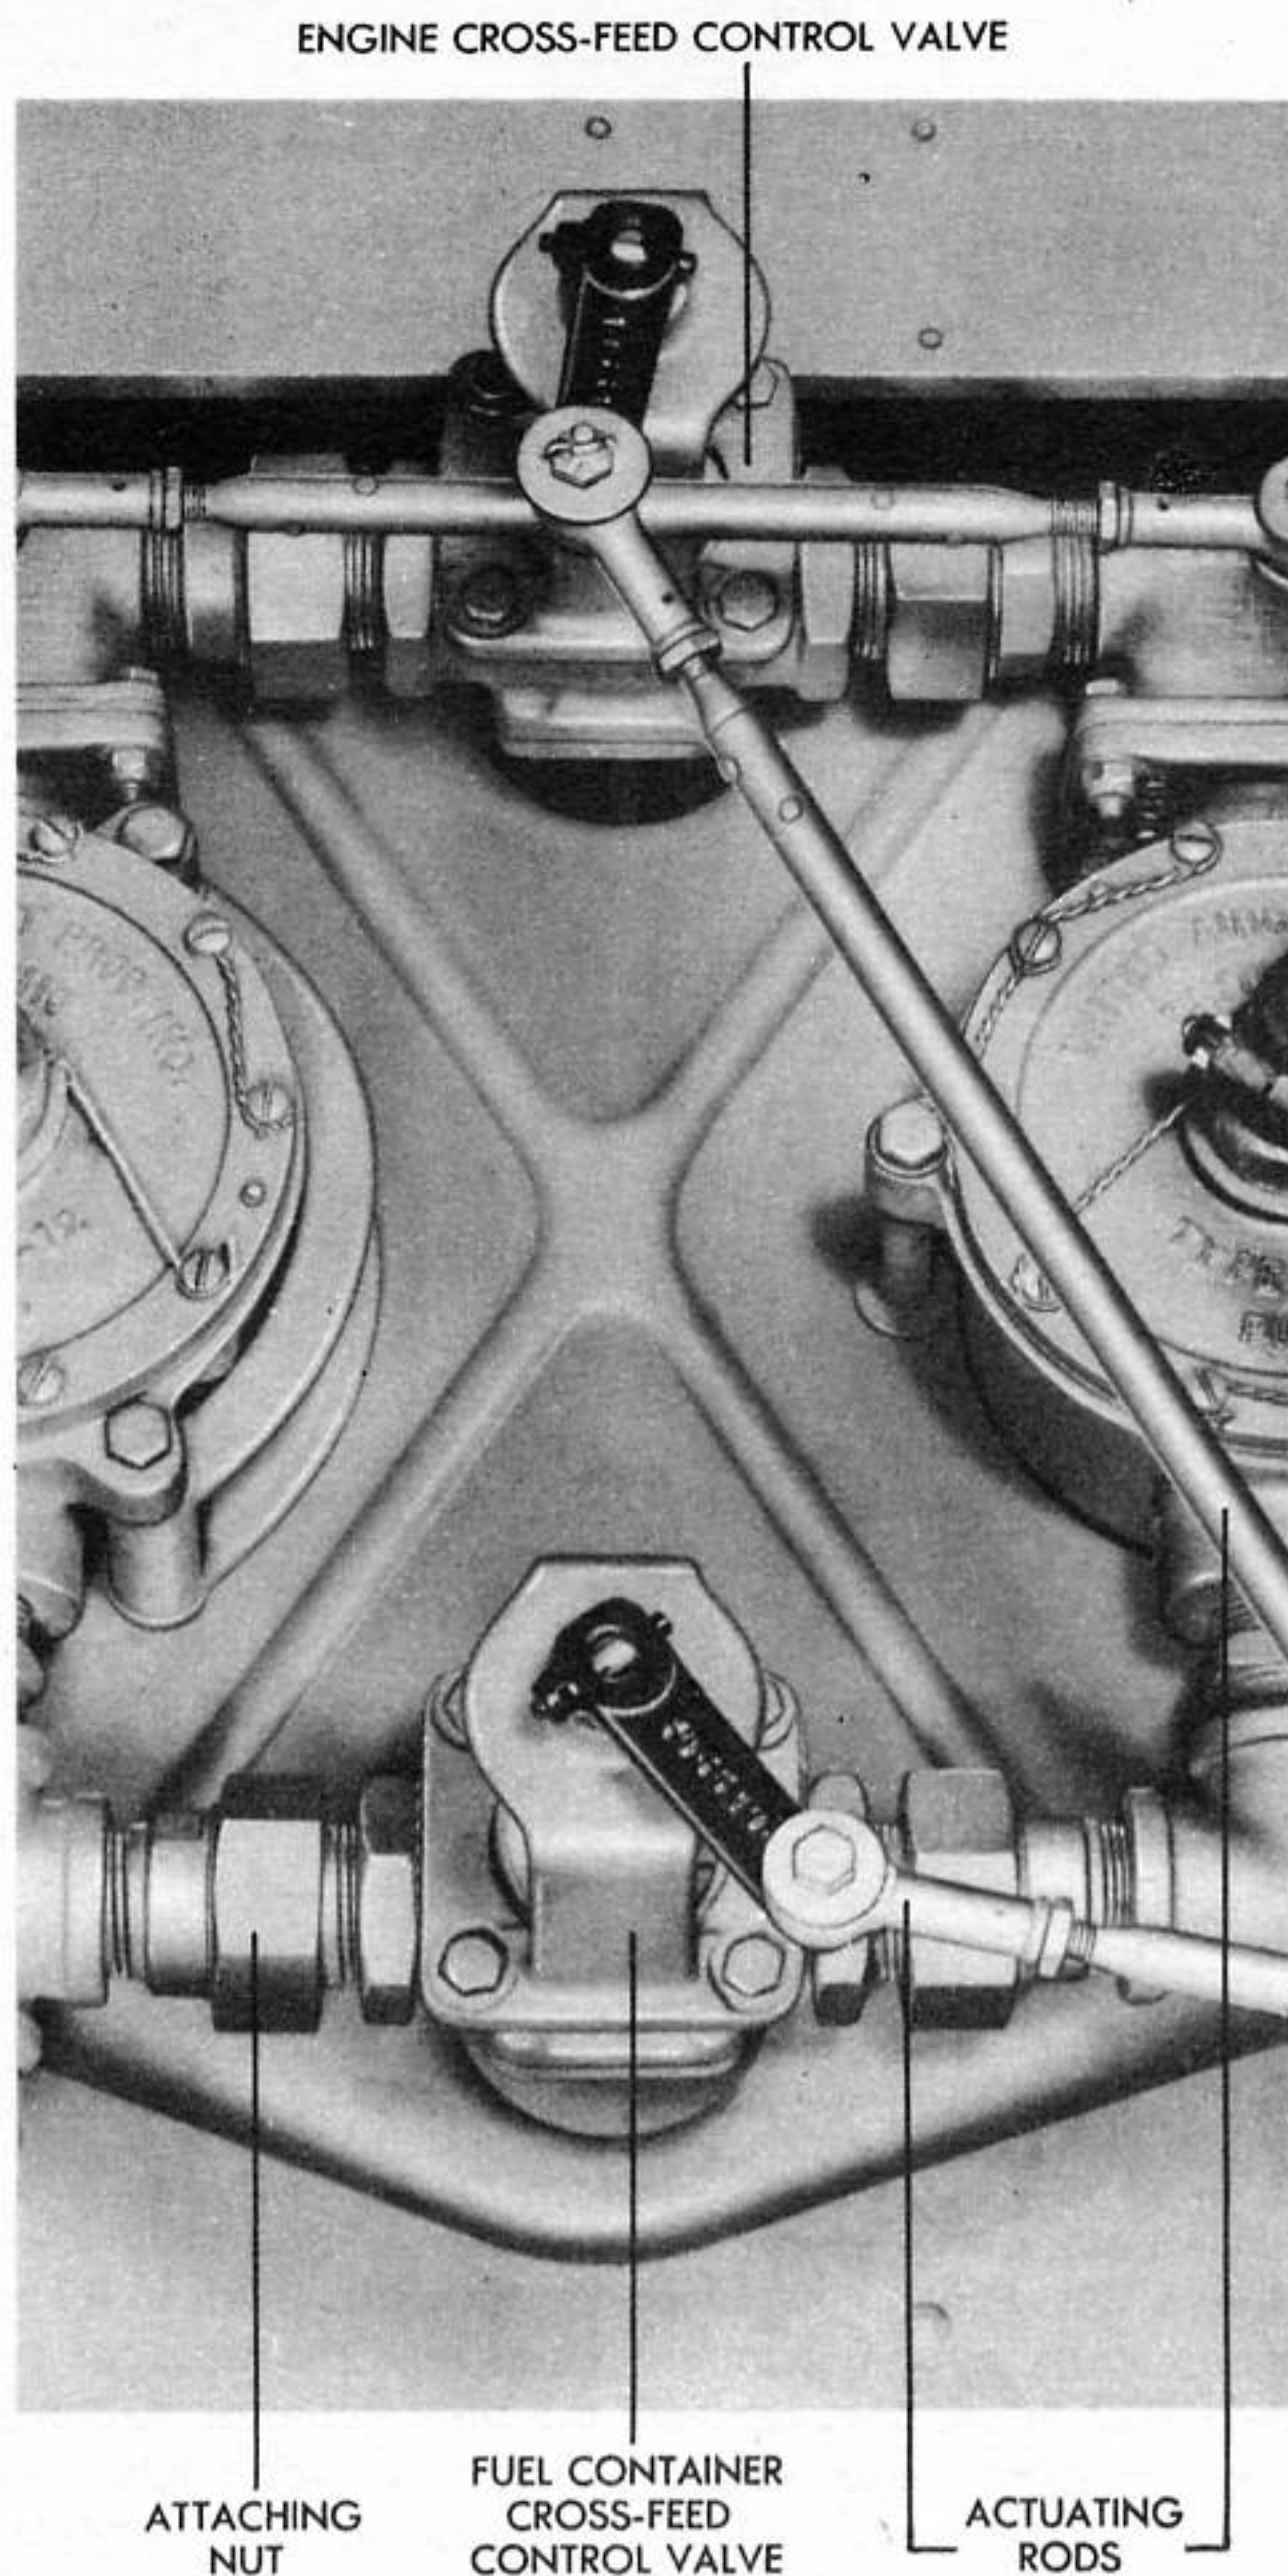

Figure 145 - INSTALLED CROSS-FEED CONTROL VALVES
(8) CROSS-FEED CONTROL VALVES. (See figure 145.) - Two manually operated cylindrical cross-feed control valves are mounted near the wobble pumps on the aft bombbay bulkhead at Station 156. One valve is installed in the engine (pressure) cross-feed line and the other is installed in the tank (suction) cross-feed line. These valves are interchangeable. The valves are controlled through a system of cables and rods from a dial and handle assembly mounted with the fuel tank selector valve controls on the panel on the left side of the pilot's cockpit.